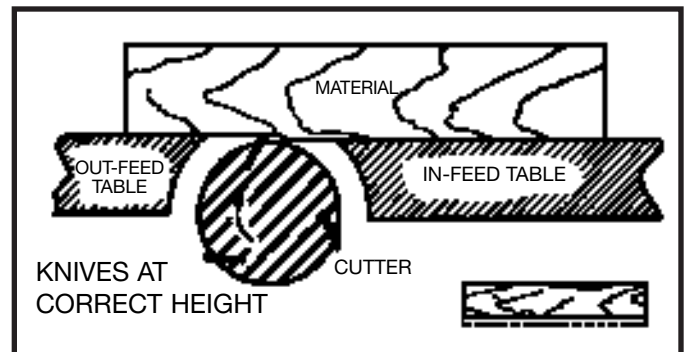

Fig. 34
9. As a final check, run a piece of work slowly over the knives for 6 to 8 inches. The wood should rest firmly on both tables as shown in Fig. 34, with no open spaces under the finished cut.